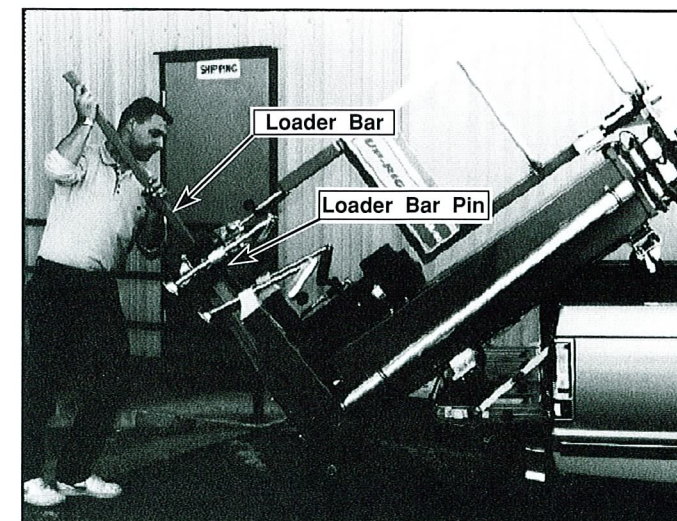

Figure 6: Tilting machine onto vehicle
5. Pull upward on the end of the loader bar using the loader as a pivot, until the unit rotates to a horizontal position in the vehicle bed (Figure 6).